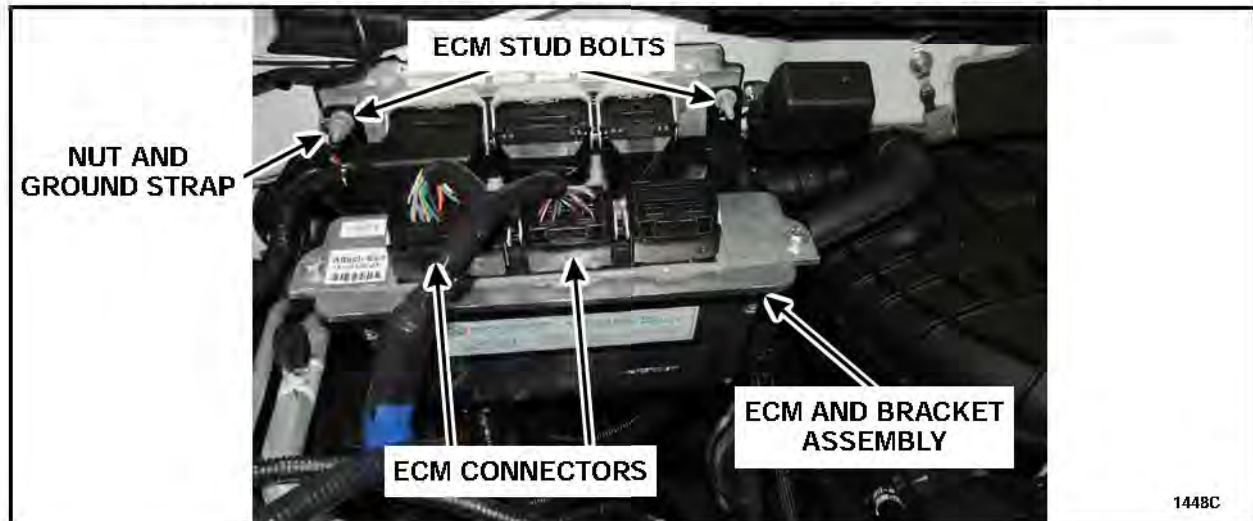

FIGURE 7
6. Remove the auxiliary Electronic Control Module (ECM) and bracket assembly. See Figure 7.
10. Install the auxiliary ECM and bracket assembly and connect the electrical connectors. See Figure 7.